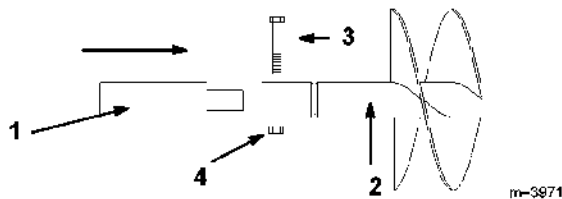

Figure 5
4. If using an extension with the auger, insert the end of the extension into the end of the auger and secure the auger to the drive head with the 7/8"-9 x 4-1/2" bolt and 7/8"-11 nut (Fig. 5).